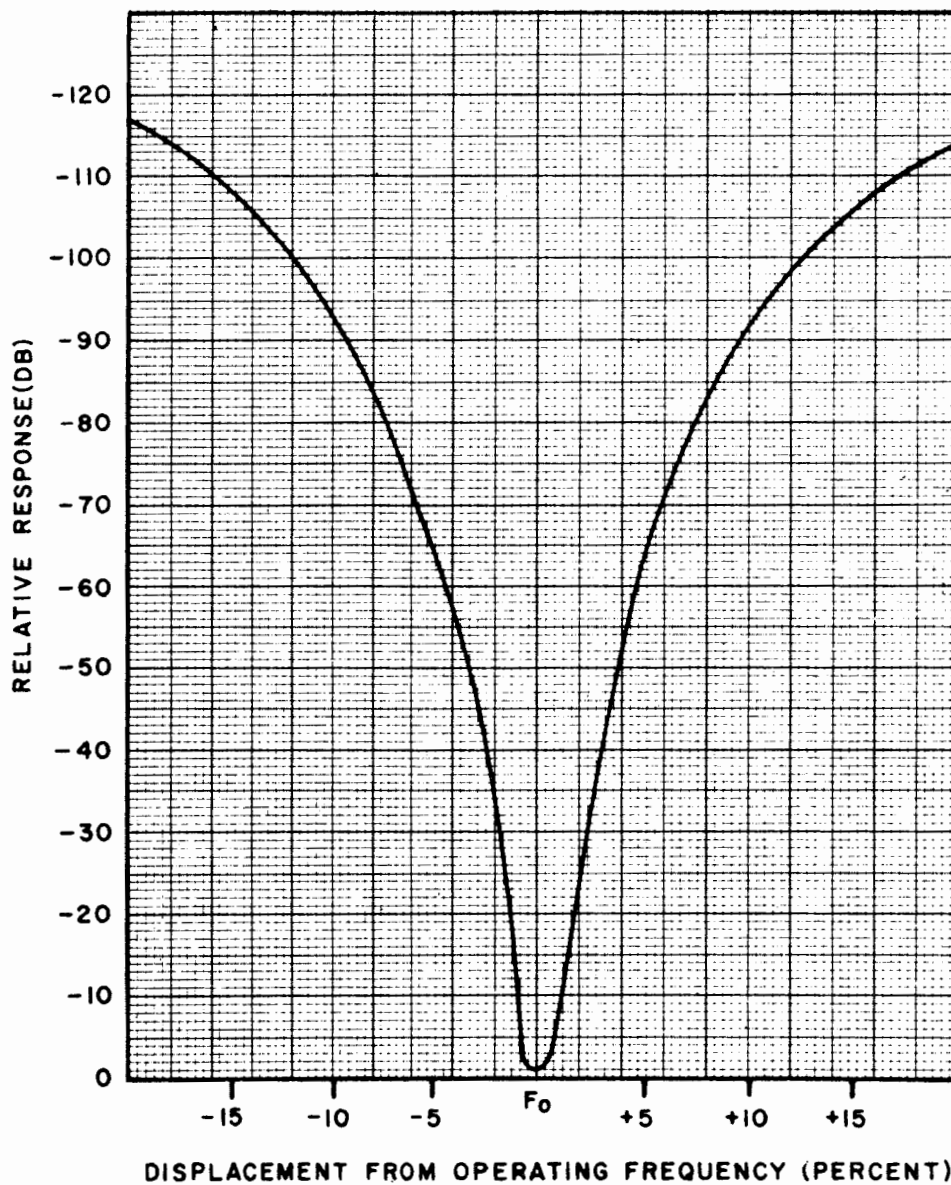

Figure 4-7 Bandpass Filter F-1039/U Selectivity Curve
- q. SELECTIVITY. - See Figure 4-7.